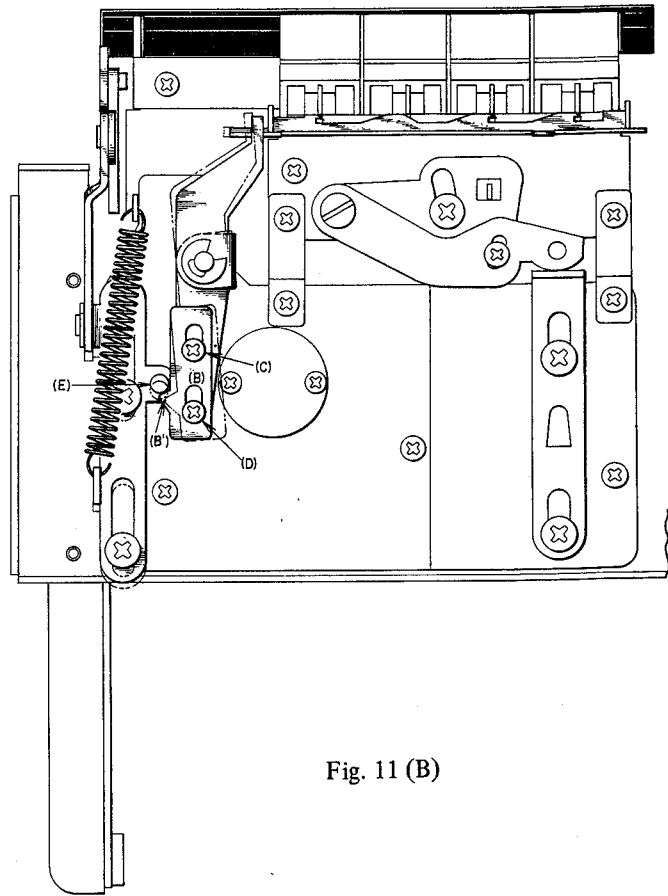

Fig. 11 (B)
(5) ADJUSTMENT OF CASSETTE COVER KEY-BOARD PROTECTION DEVICE (See Fig. 11 (A) (B) )